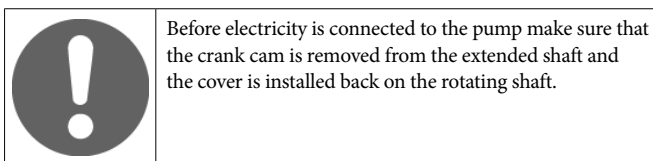

Figure 21.
7. Push the ends of the hoses back inside the pump housing so that the flange of the split bushing is against the pump housing (refer to *Figure 21*).
11. Rotate the rotor slowly a few times so that the hose sets in the right position. **Important:** Ensure that the gap of the split bushing and the gasket gills are horizontal (refer to *Figure 21.*). Otherwise the hose will be subjected to excess tension, which may reduce its life time.